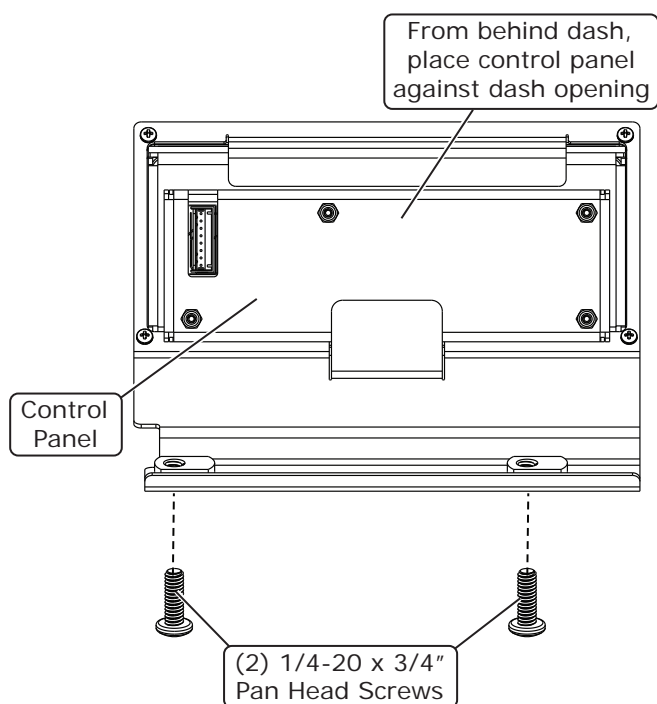
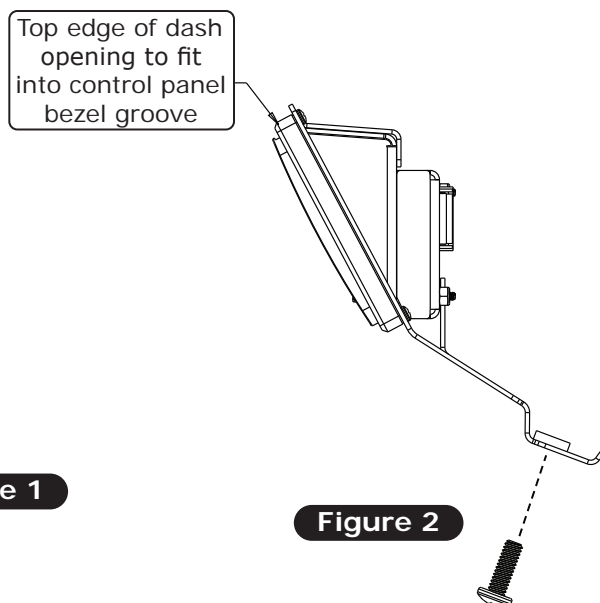

Figure 1
Figure 2
1. Remove the (2) 1/4-20 x 3/4" pan head screws from the control panel assembly.
2. From behind the dash, place the control panel against the dash opening (See Figure 1, below).
3. While pressing the bezel firmly into the dash aperture, secure the control panel to the dash using (2) 1/4-20 x 3/4" pan head screws (See Figures 1 and 3, below). **NOTE: Top edge of dash opening to fit into control panel bezel groove (See Figure 2, below).**